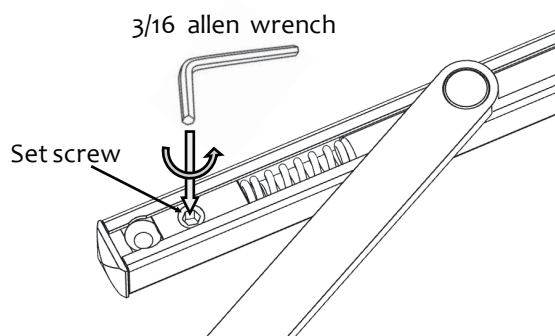

Figure 6
- Loose the set screw with a 3/16" allen wrench (Figure 6)